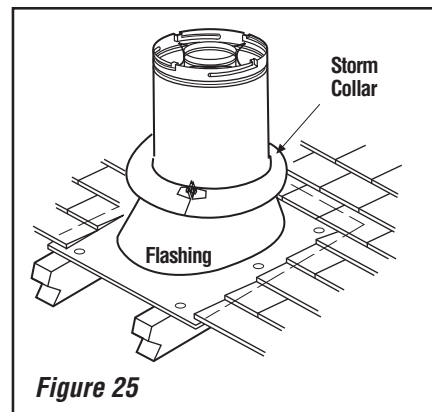

Figure 25
I. Install the roof flashing - Extend the vent sections through the roof structure. Install the roof flashing over the vent section and position such that the vent column rises vertically (use carpenter's level - see *Figure 25*). Nail along perimeter to secure flashing or adjust roofing to overlap the flashing edges at top and sides only and trim where necessary. Seal the top and both sides of the flashing with waterproof caulking.
J. Install the storm collar - Install the storm collar, supplied with the flashing, over the vent / flashing joint. See *Figure 25*. Loosen the storm collar screw. Slide collar down until it meets the top of the flashing. Tighten the adjusting screw. Apply non-combustible caulking or mastic around the circumference of the joint to provide a water tight seal.